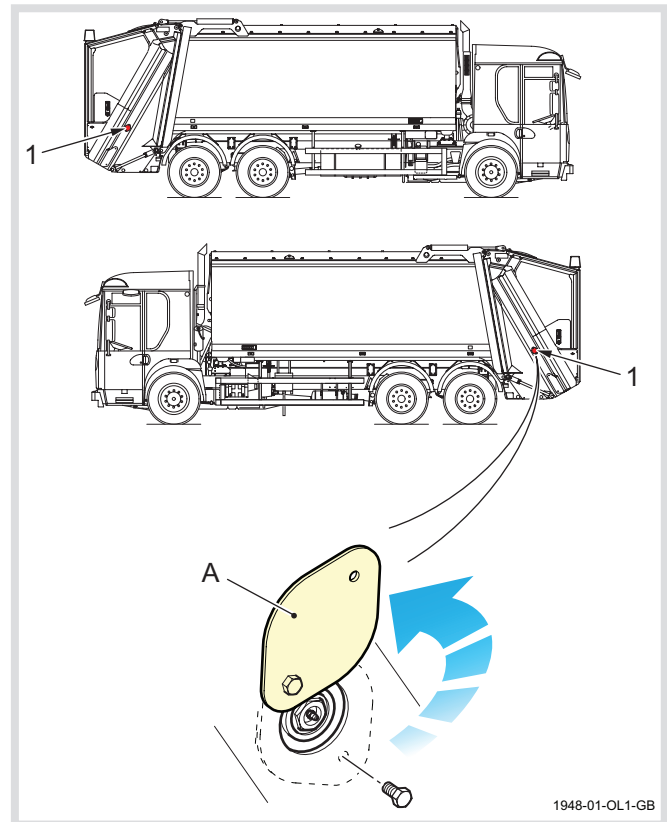

Fig. 6-1 Lubrication points
2. Remove the bolts securing the bottom of the packer plate pivot cover plates. Loosen the top bolts and open each cover (see Fig. 6-1, A).
- Carriage plate/Packer plate bearings (2 nipples) (see Fig. 6-1, 1).